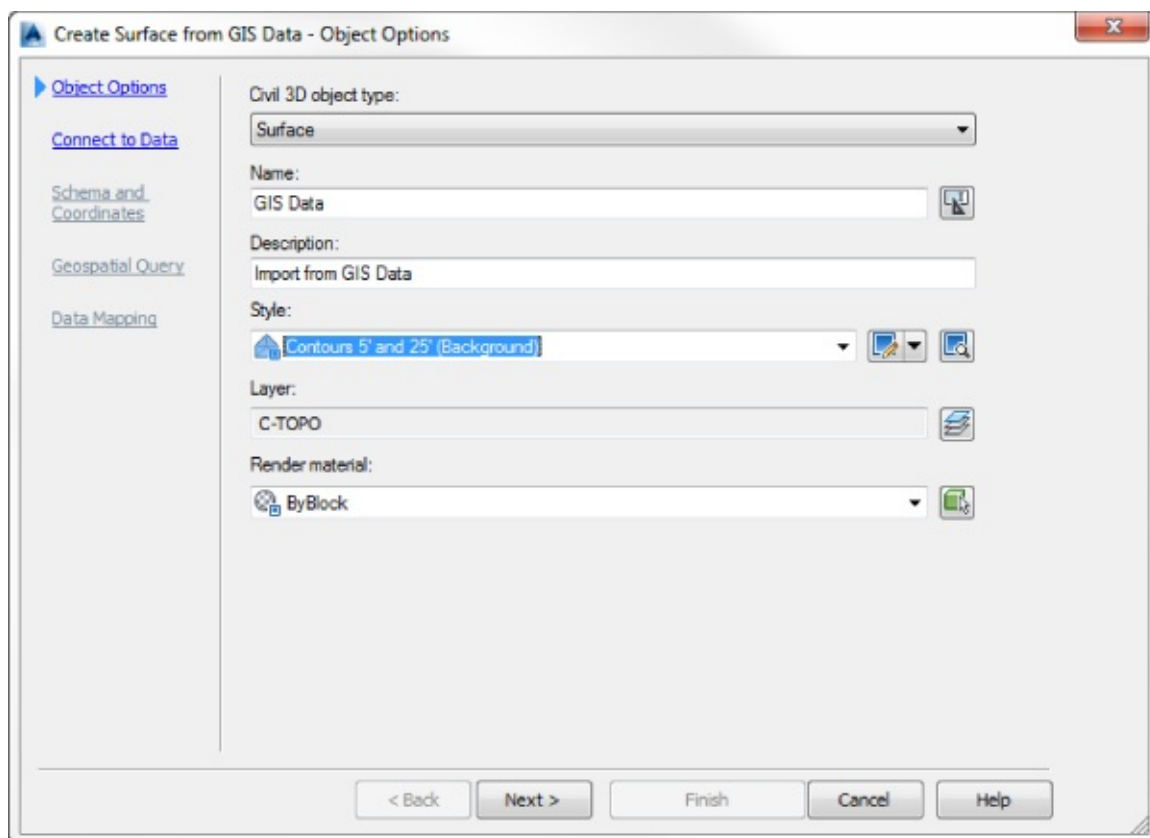

Figure 4.18 The Create Surface From GIS Data – Object Options page
3. Set Name to **GIS Data**, change Description to **Import from GIS Data**, and set the style to Contours 5' and 25' (Background), or Contours 2 m and 10 m (Background) for metric users, as shown in Figure 4.18, and click the Next button.